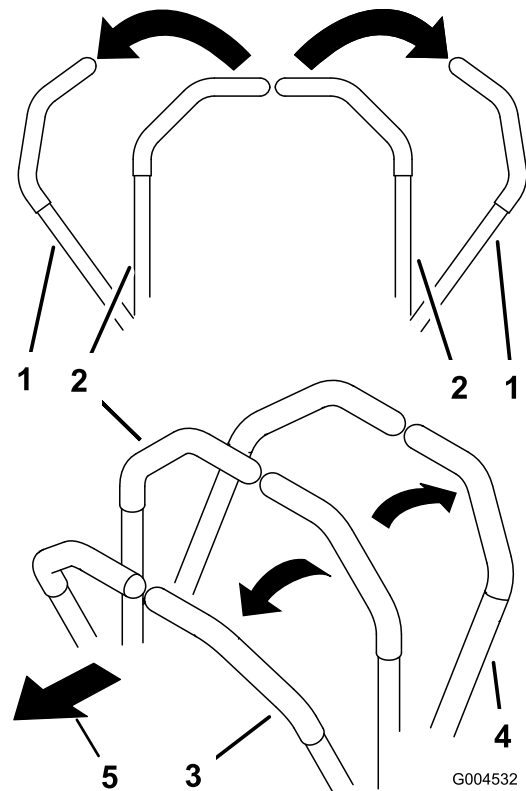

Figure 14
2. To go forward, slowly push the motion-control levers forward (Figure 14).